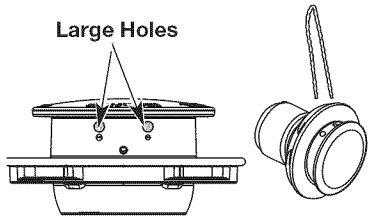

Fig. 15
- Insert both ends of your line through the large holes in the side of the cutting head (Fig. 15).